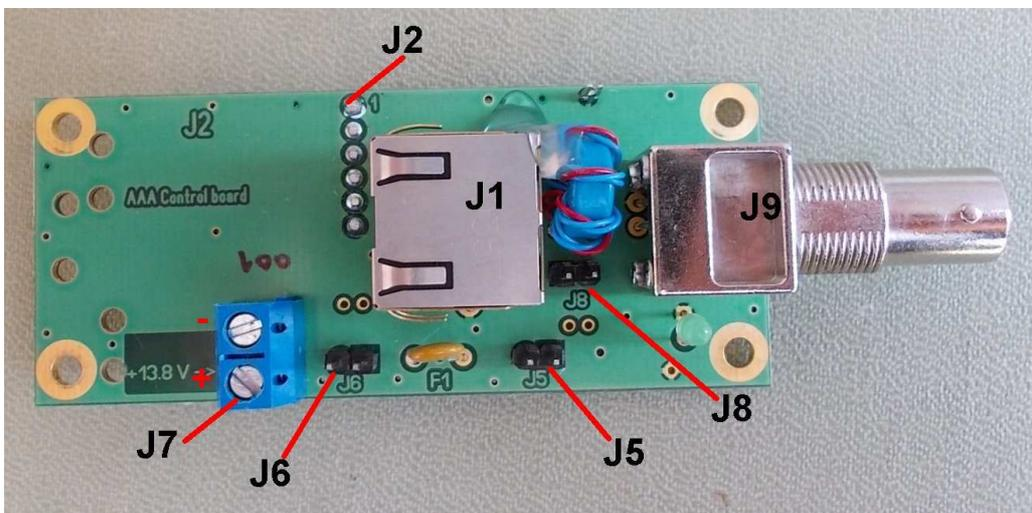

Fig.2.2 Control board model AAA-1B
The control board (**Fig.2.2**) has the following functions:
- J7** Power connector for 13.8 V PS; polarity as shown on the **Fig.2.2**